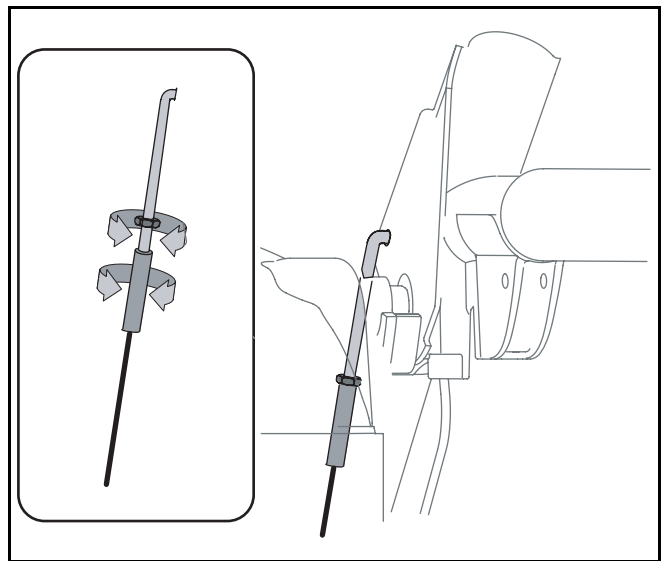

Figure 2
- Loosen the hex jam nut on the auger control cable “Z” fitting and rotate the coupling end of the cable downward to provide more slack or upward to take up slack. See Figure 2.